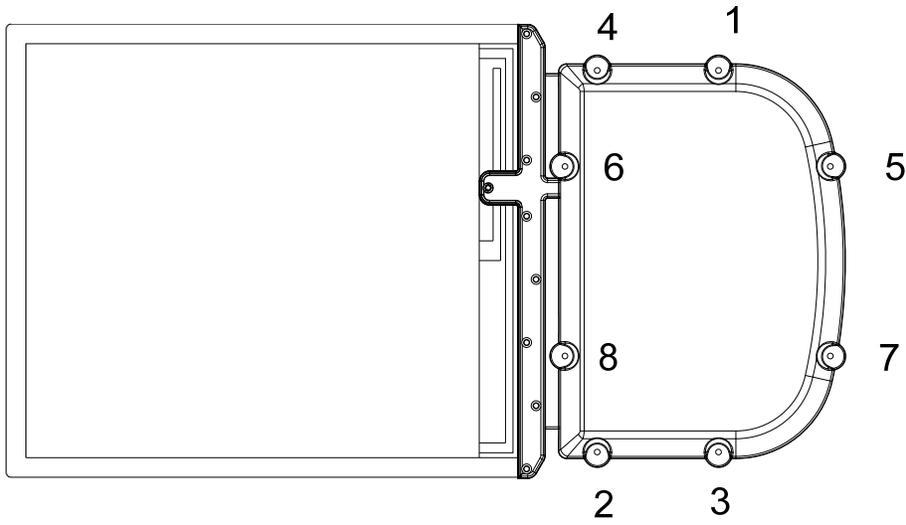

Figure 7.2.9
7.2.9. Using the Torx T-10 bit and a torque screwdriver Torque the mounting screws to 10 in-lbs +/- 1in-lb IAW the pattern shown in figure 7.2.9.